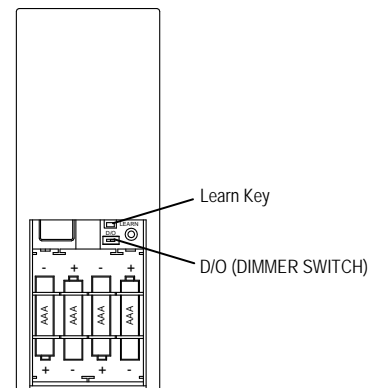

FIG 3
2. Use a small screwdriver or ballpoint pen to press and hold the "LEARN" key, located in the battery compartment (see FIG. 3.), for 3 seconds. Fan will turn on at high speed and light (if installed) blinks 3 times. This confirms that the SMART SYNC setting is active. You now have 30 seconds to press the LEARN key. Tap the FAN OFF button to turn off the fan.
Slide the D/O switch, located in the battery compartment (See FIG. 3), to match the bulb type in your fan. "D" is for incandescent bulbs and "O" indicates compact fluorescent